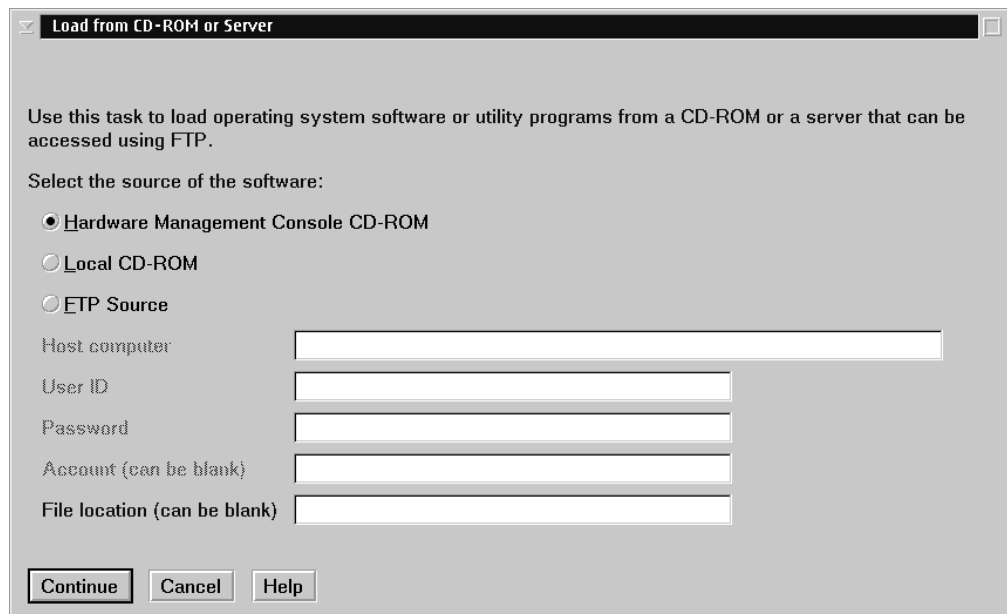

Figure 74. Load from CD-ROM or Server panel
5. Click the "Load from CD-ROM or Server" icon in the Task Area to display the "Load from CD-ROM or Server" panel (Figure 74).